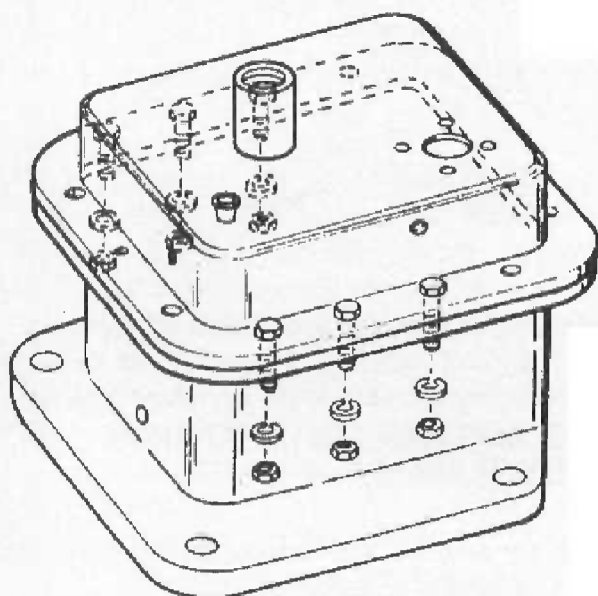

Figure 36 — Flange fastener positions
6. Install flange fasteners on opposite sides of the housing, next to the low speed shaft as shown in Fig. 36 and cross tighten to the torques specified in Table 22.